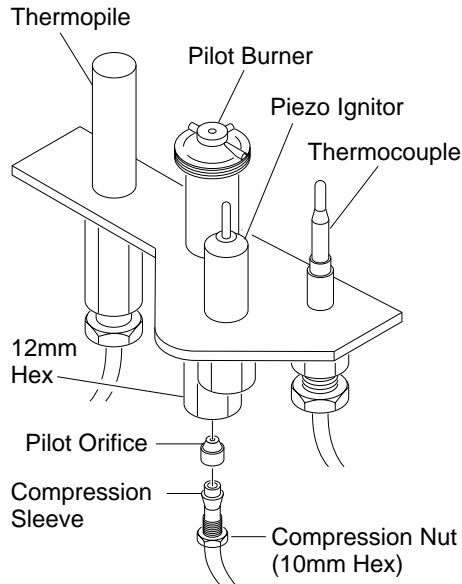

Figure 6 - Removing/Replacing Pilot Orifice
- Convert the pilot burner by changing out the pilot orifice. Remove the compression nut and compression sleeve from the pilot. Remove the pilot orifice from inside the pilot barrel (see Figure 6). Replace with the pilot orifice supplied with the fireplace. **Note:** The new pilot orifice has the number 30 stamped on it for identification purposes.
- Place open end of pilot orifice on top of compression sleeve and carefully slide up inside pilot burner. Tighten compression nut (see Figure 6). **IMPORTANT:** Be careful not to bend or kink aluminum tubing during conversion. Make sure the compression sleeve and pilot orifice are properly mated and aligned before retightening the compression nut.